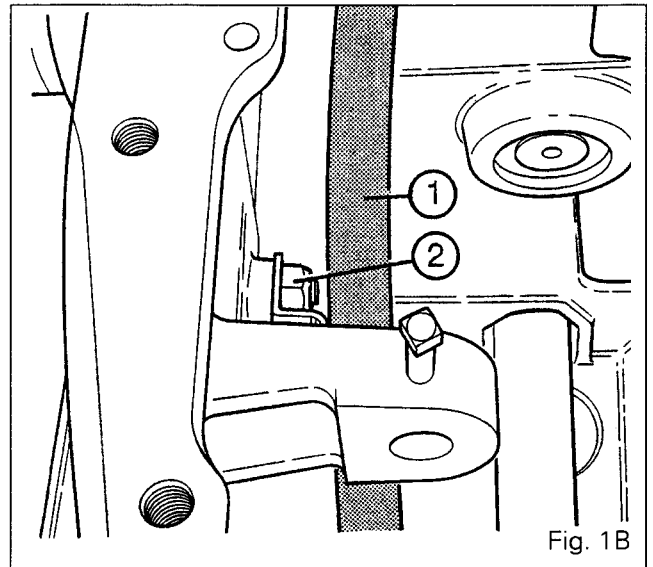

Fig. 1B
On tractors equipped with a closed centre hydraulic circuit, bolt "V" (Fig. 5A) also supports the return tube (1) from the auxiliary spool valves inside the centre housing (Fig. 1B).